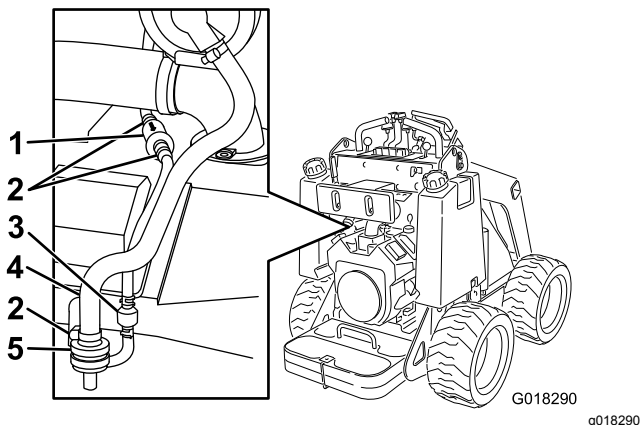

Figure 21
3. Loosen the hose clamp above the carbon-canister air filter (Figure 21).
5. Install a new filter into the hose and secure it with the hose clamp (Figure 21).
3. Move the spring-type hose clamps on both sides of the carbon canister purge-line filter away from the filter (Figure 21).
4. Remove and discard the purge-line filter (Figure 21).
5. Install a new filter into the hose with the arrow on the filter pointing toward the check valve and secure it with the hose clamps (Figure 21).
4. Remove and discard the air filter (Figure 21).